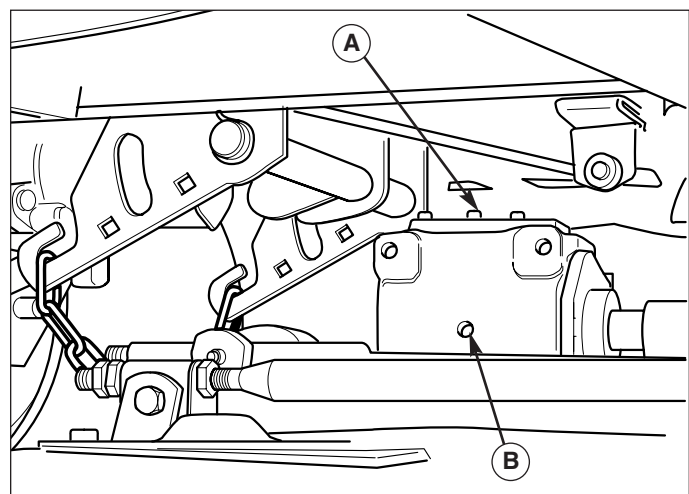

Figure 27. Gear Box Fill Plug Location
1. Remove the plugs from the top and side of the gear box (see Figure 27).